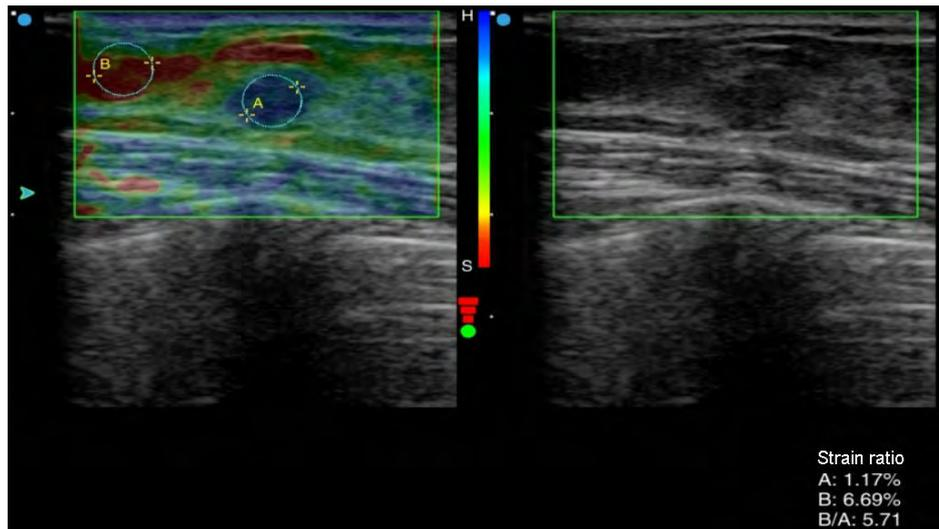

Fig. E-5 Measuring the strain ratio
- 5) Move the cursor to the normal tissue around the lesion area and draw a circle of the same size using the method above. When the circle sizes are not the same, these two circles will be displayed with dashed lines. When the circle sizes are the same, these two circles will be displayed with solid lines. Press the **Set** key to complete the measurement, as shown in Fig. E-5. The system will then automatically calculate the ratio, and the measurement and calculation results will be shown in the bottom-right corner of the screen.